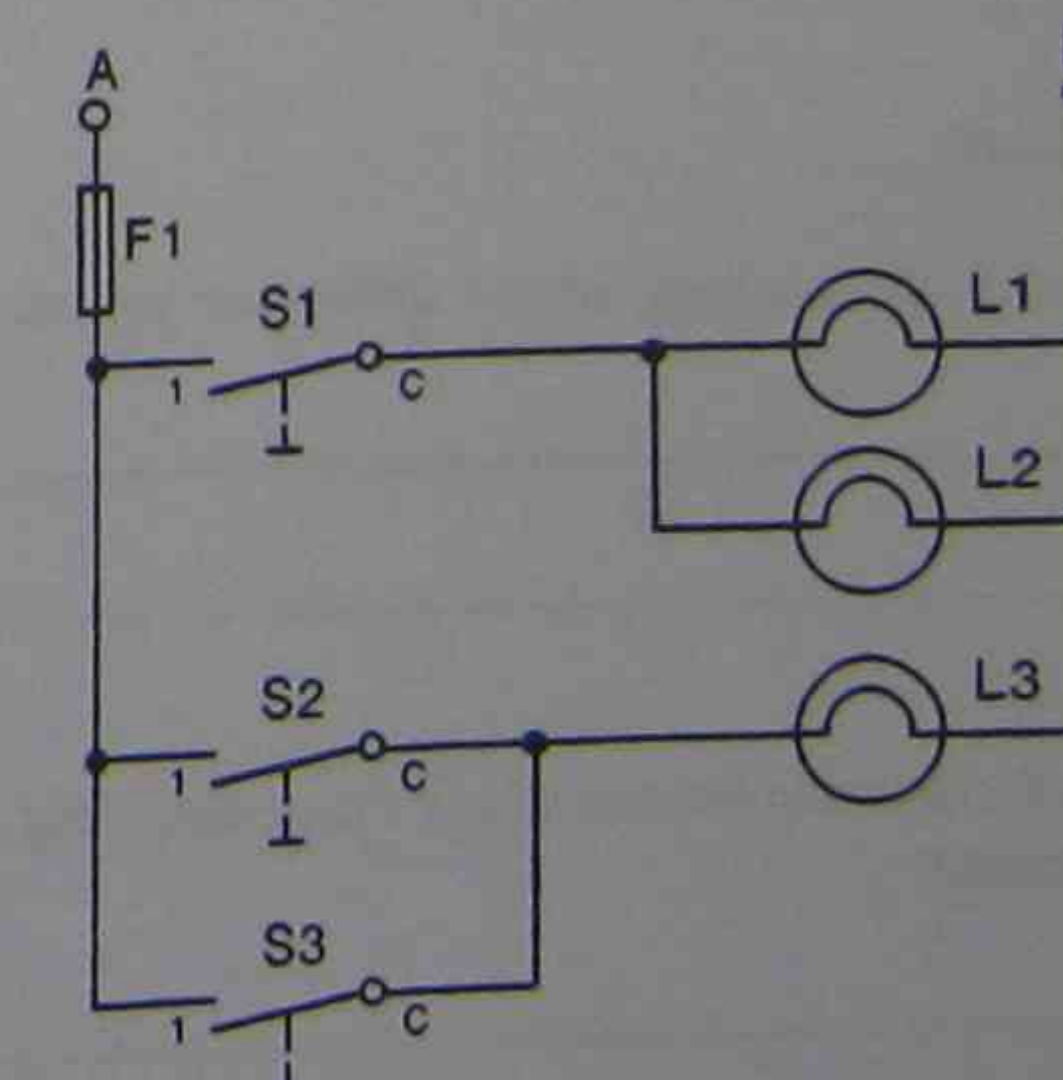

Figure16 Circuit diagram
21. For the circuit diagram shown in Figure 16 neatly sketch on the layout of Figure 17 the wiring diagram for the circuit.